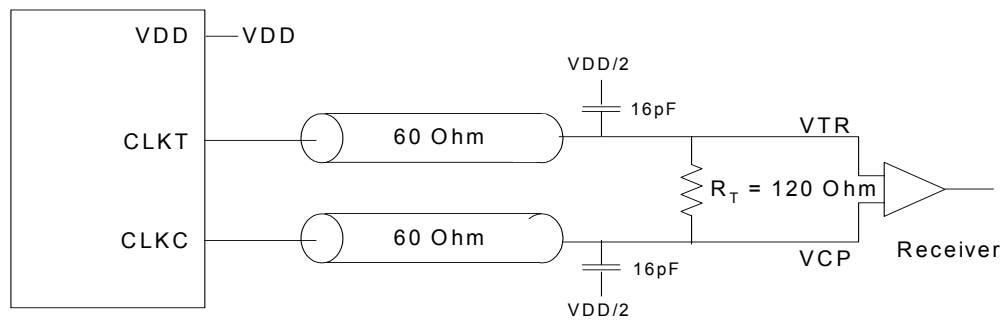

Figure 6. Differential Signal Using Direct Termination Resistor
- For load conditions see Figure 6.
- The value of V_{OC} is expected to be $|V_{TR} + V_{CP}|/2$. In case of each clock directly terminated by a 120Ω resistor. See Figure 6.
- All outputs switching loaded with 16 pF in 60Ω environment. See Figure 6.
- All differential input and output terminals are terminated with $120\Omega/16$ pF as shown in Figure 6.